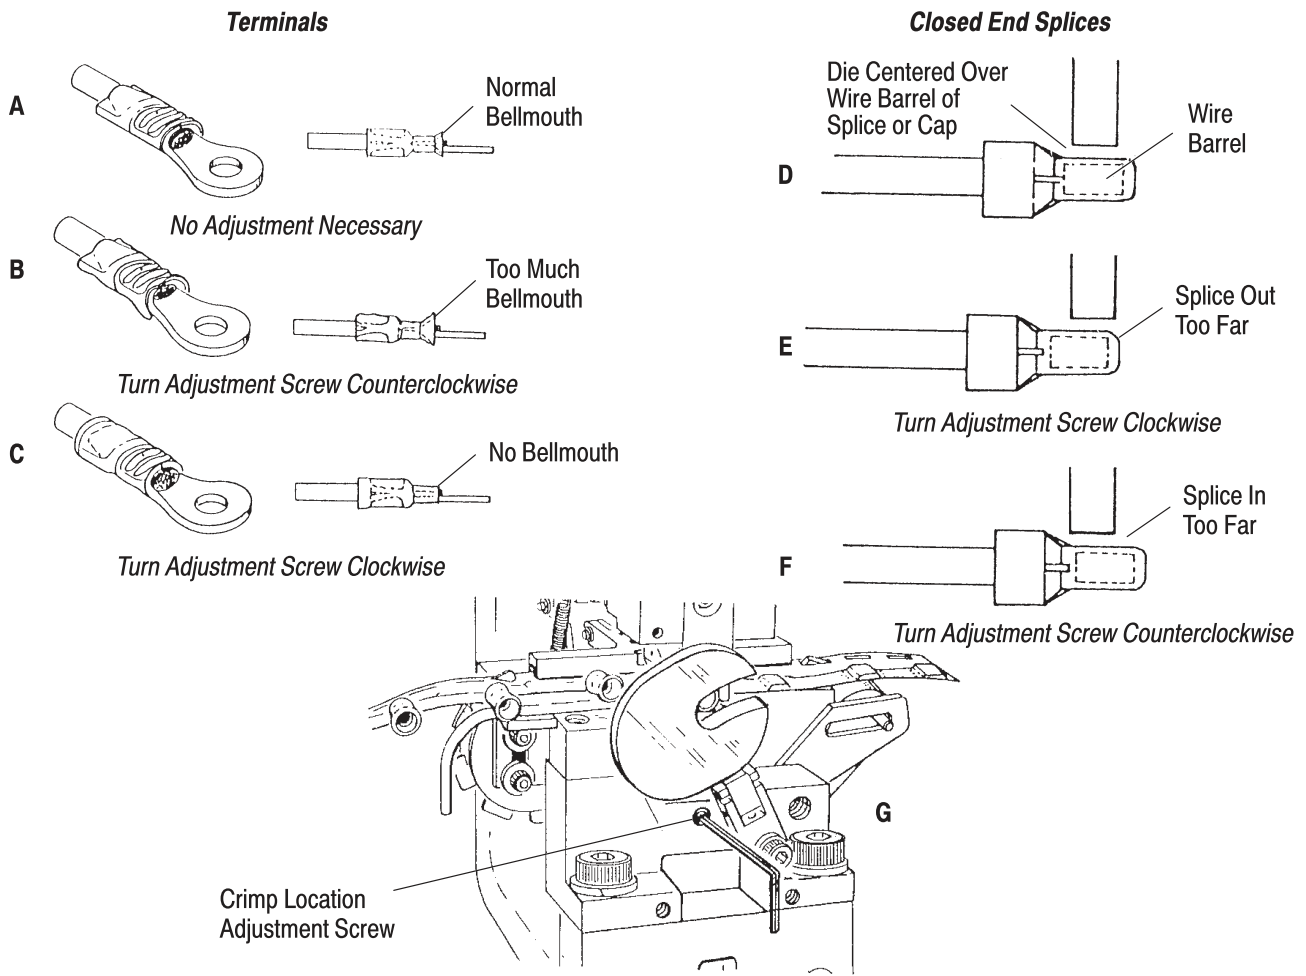

Figure 19
7.4. Crimp Location Adjustment (Figure 19)**DANGER**
Periodically, and after each change of dies, inspect the product for correct crimp location. Correct and incorrect crimp locations are illustrated in Figure 19. If adjustment is necessary, perform the following adjustment.
3. Insert a hex wrench in the crimp-location adjustment screw (Figure 19).